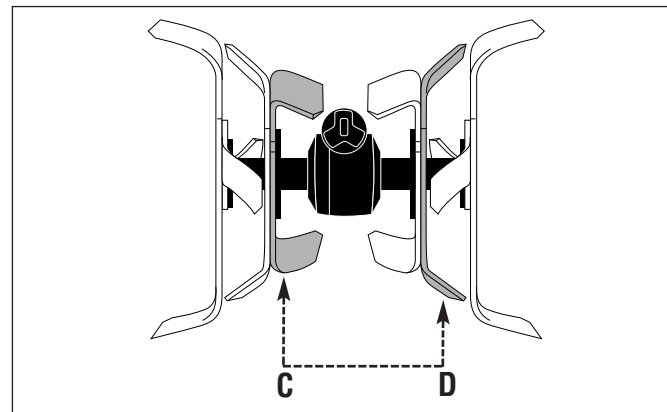

Figure 29: Exchanging position of tines at "C" and "D."
Step 2: Move the two *right-curved tines* from position "C" on the left inner holder to the "D" position on the right inner holder. Move the two right-curved tines which were at the "D" position to "C." See Figure 29.